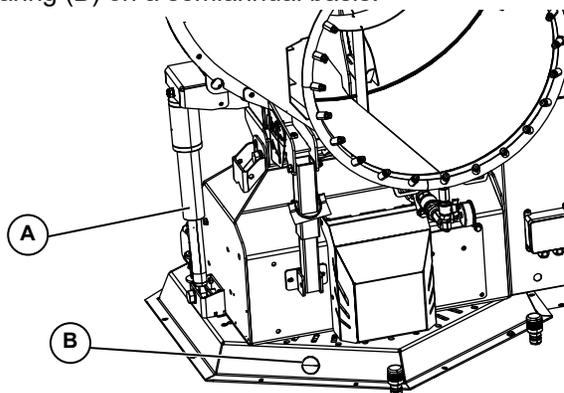

Figure 4-7. Lubrication
See Figure 4-7. Lubricate transport support (A) and thrust bearing (B) on a semiannual basis.